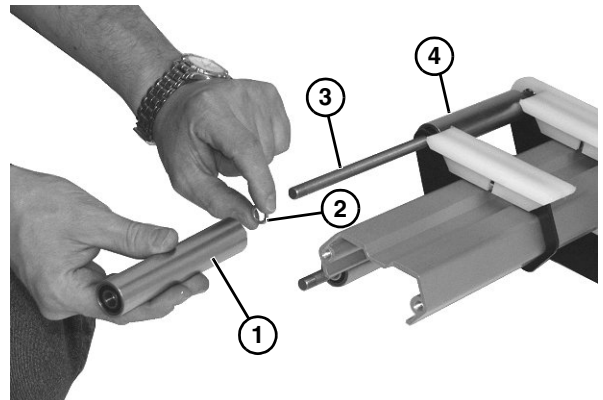

Figure 43
9. Remove roller assembly (**Figure 43, item 1**) and washer (**Figure 43, item 2**) from axle shaft (**Figure 43, item 3**).
10. Remove remaining roller assembly components (**Figure 43, item 4**) on opposite side.